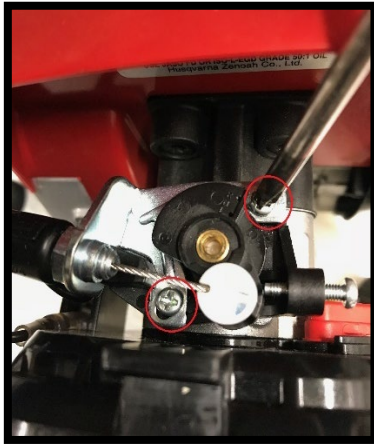

Figure 1:
2. Release both the screws on the top of the carburetor (figure 1)